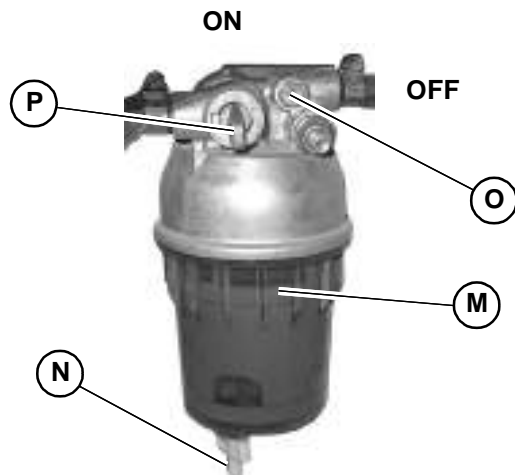

Fig. 96 – Water Separator
The water separator contains an indicator ring (M, Fig. 96) that floats on top of accumulated water. Under normal conditions, the ring sits at the bottom of the separator cup. If the ring is somewhere between the top and bottom the cup, water must be drained.
4. On all machines except model RT250, inspect the water separator (Fig. 96) for the presence of water:
- If the indicator ring (M) is at the bottom of the cup, no action is required.
- If the indicator ring (M) is floating off the bottom of the cup, water is present and needs to be drained.
- Turn fuel shut-off valve lever (P, Fig. 96) on the water separator to the OFF position.